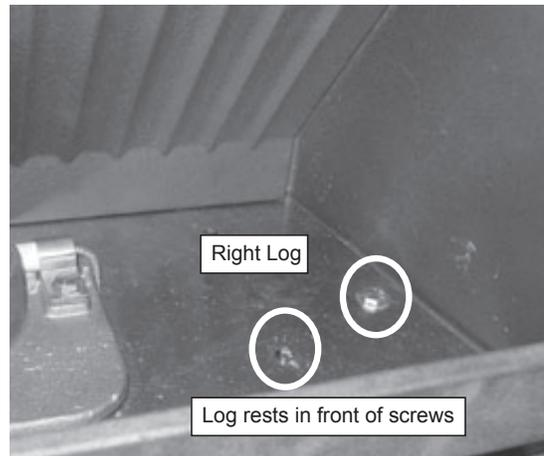

Figure 19.3
2. Place the right log in front of the 2 screw heads in the firebox. **Figures 19.3 & 19.4**